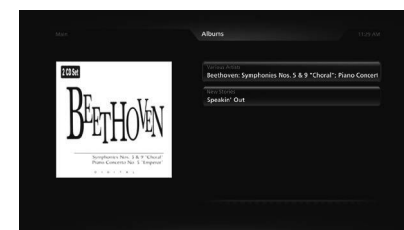

Figure 13
2. Press the  (SELECT) Push-button on the Remote Control to view the available Albums. Refer to figure 13.